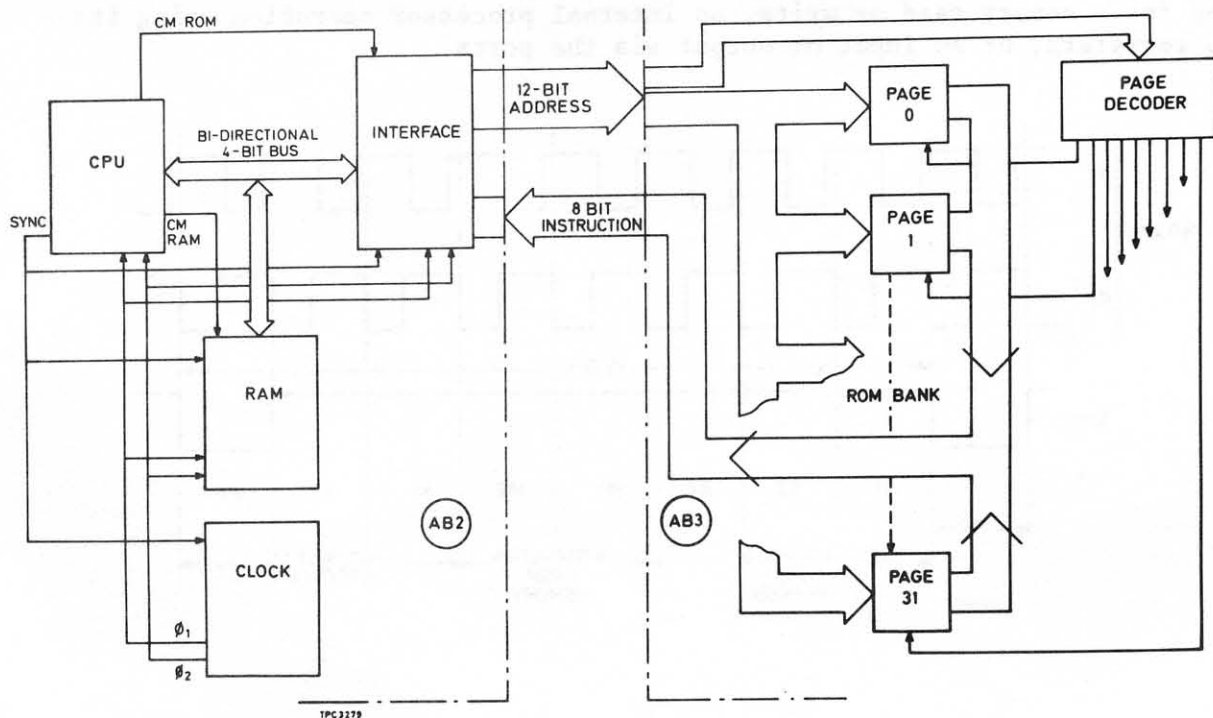

Fig. 14 Microprocessor and memory
51. Microprocessor board AB2 comprises, besides the microprocessor, a clock generator, a RAM bank, a ROM interface and the output ports. Memory board AB3 primarily contains the ROM bank and the input ports. The microprocessor controls the operations of the other component parts by implementing a series of instructions which are stored in memory. Block diagram Fig. 14 shows in simplified form the operation of the microprocessor and memory boards. The microprocessor is shown communicating with the program memory (ROM bank) via the interface by means of a bidirectional 4-line bus. All addresses and instructions to and from the memories are passed on this 4 parallel wire bus. The bus is used to access two types of memory; the read only memory (ROM) contains permanently fixed instructions and data which can only be read out, whilst the random access memory (RAM) is used as a working memory for the temporary storage of data which can be both written into or read out from memory. Unlike the ROM the RAM loses its stored data when the instrument
Circuit diagram : Chap. 7, Fig. 14